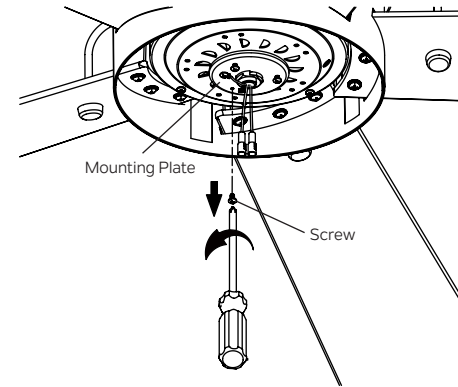

Fig. 19
Step 1. Remove the screw marked with a brown dot label on the mounting plate and keep for later use. Loosen the other two screws (do not remove). (Fig.19)